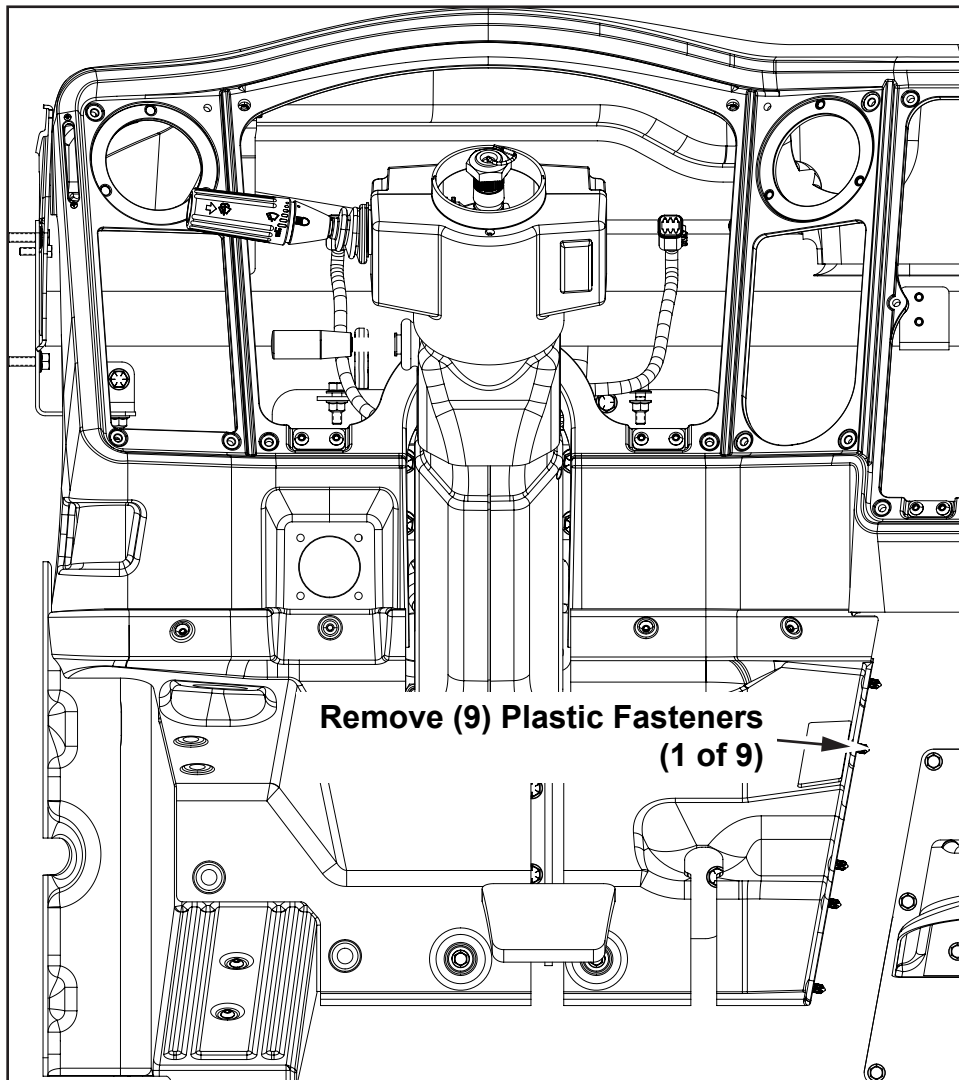

Figure 6
3. Using a Trim panel removal tool, remove and set aside for reinstallation (9) plastic fasteners from the lower closeout panel, remove panel and set aside for reinstallation (see Figure 6).